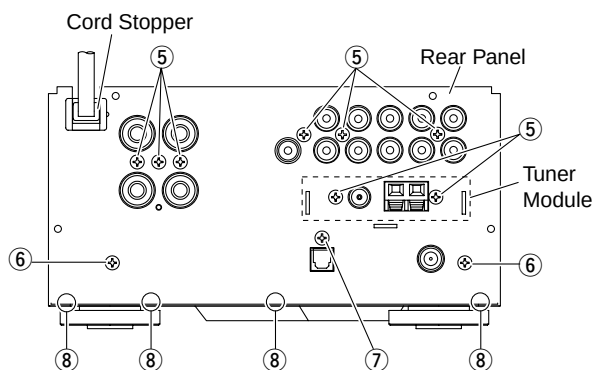

Fig. 3
- Remove the Cord Stopper. (Fig. 3)
- Remove 8 screws (⑤), 2 screws (⑥), 1 screw (⑦) and 4 screws (⑧). (Fig. 3)
- Remove the Rear Panel. (Fig. 3)
- Remove the Tuner Module. (Fig. 3)